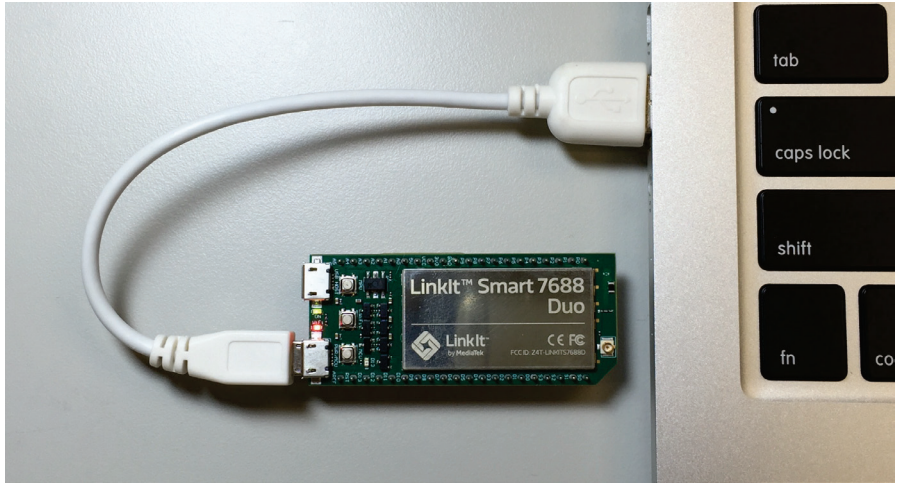

Figure 11 Connecting LinkIt Smart 7688 to a computer
- 2) Power on LinkIt Smart 7688 by using any USB power source, for example your computer and a Micro USB cable as shown in Figure 11.